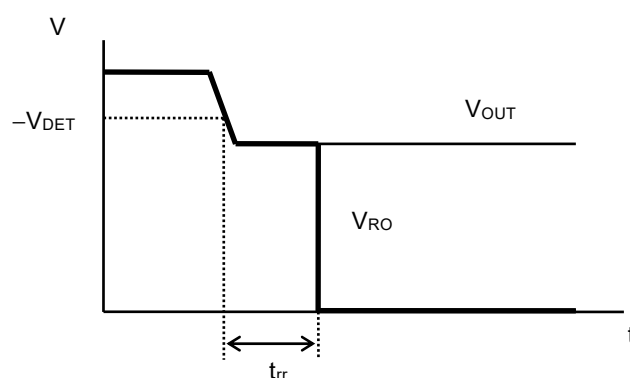

Figure 7 Reset Reaction Time
*4. The time from when V_{OUT} falls below $-V_{DET}$ to when the RO pin output inverts (Refer to **Figure 7**). The time period from when V_{OUT} changes to $V_{OUT(S)} \rightarrow -V_{DET}$ to when V_{RO} reaches $V_{OUT} / 2$.